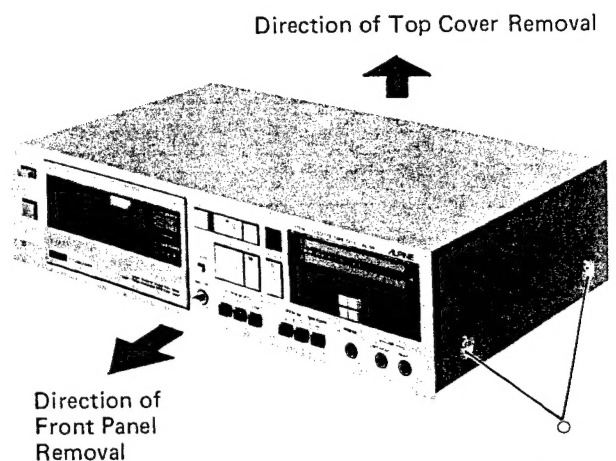

Figure 3
- (1) Remove four screws marked "○" as shown in Figures 3 and 4.
- (2) Lift up the top cover in the direction of the arrow as shown in Figure 3.
- (4) Remove the front panel from the main chassis in the direction of the arrow as shown in Figure 3.